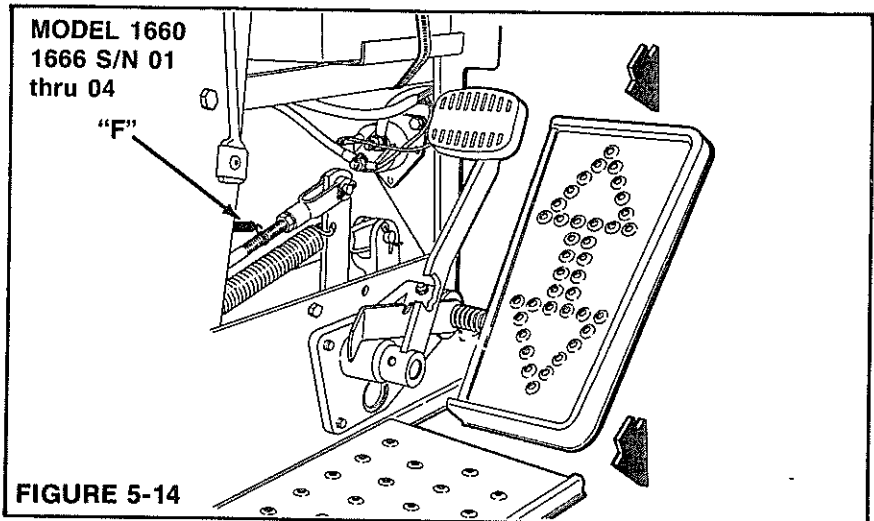

FIGURE 5-14
Adjust clip (F) Figure 5-14 on brake rod till switch activates.